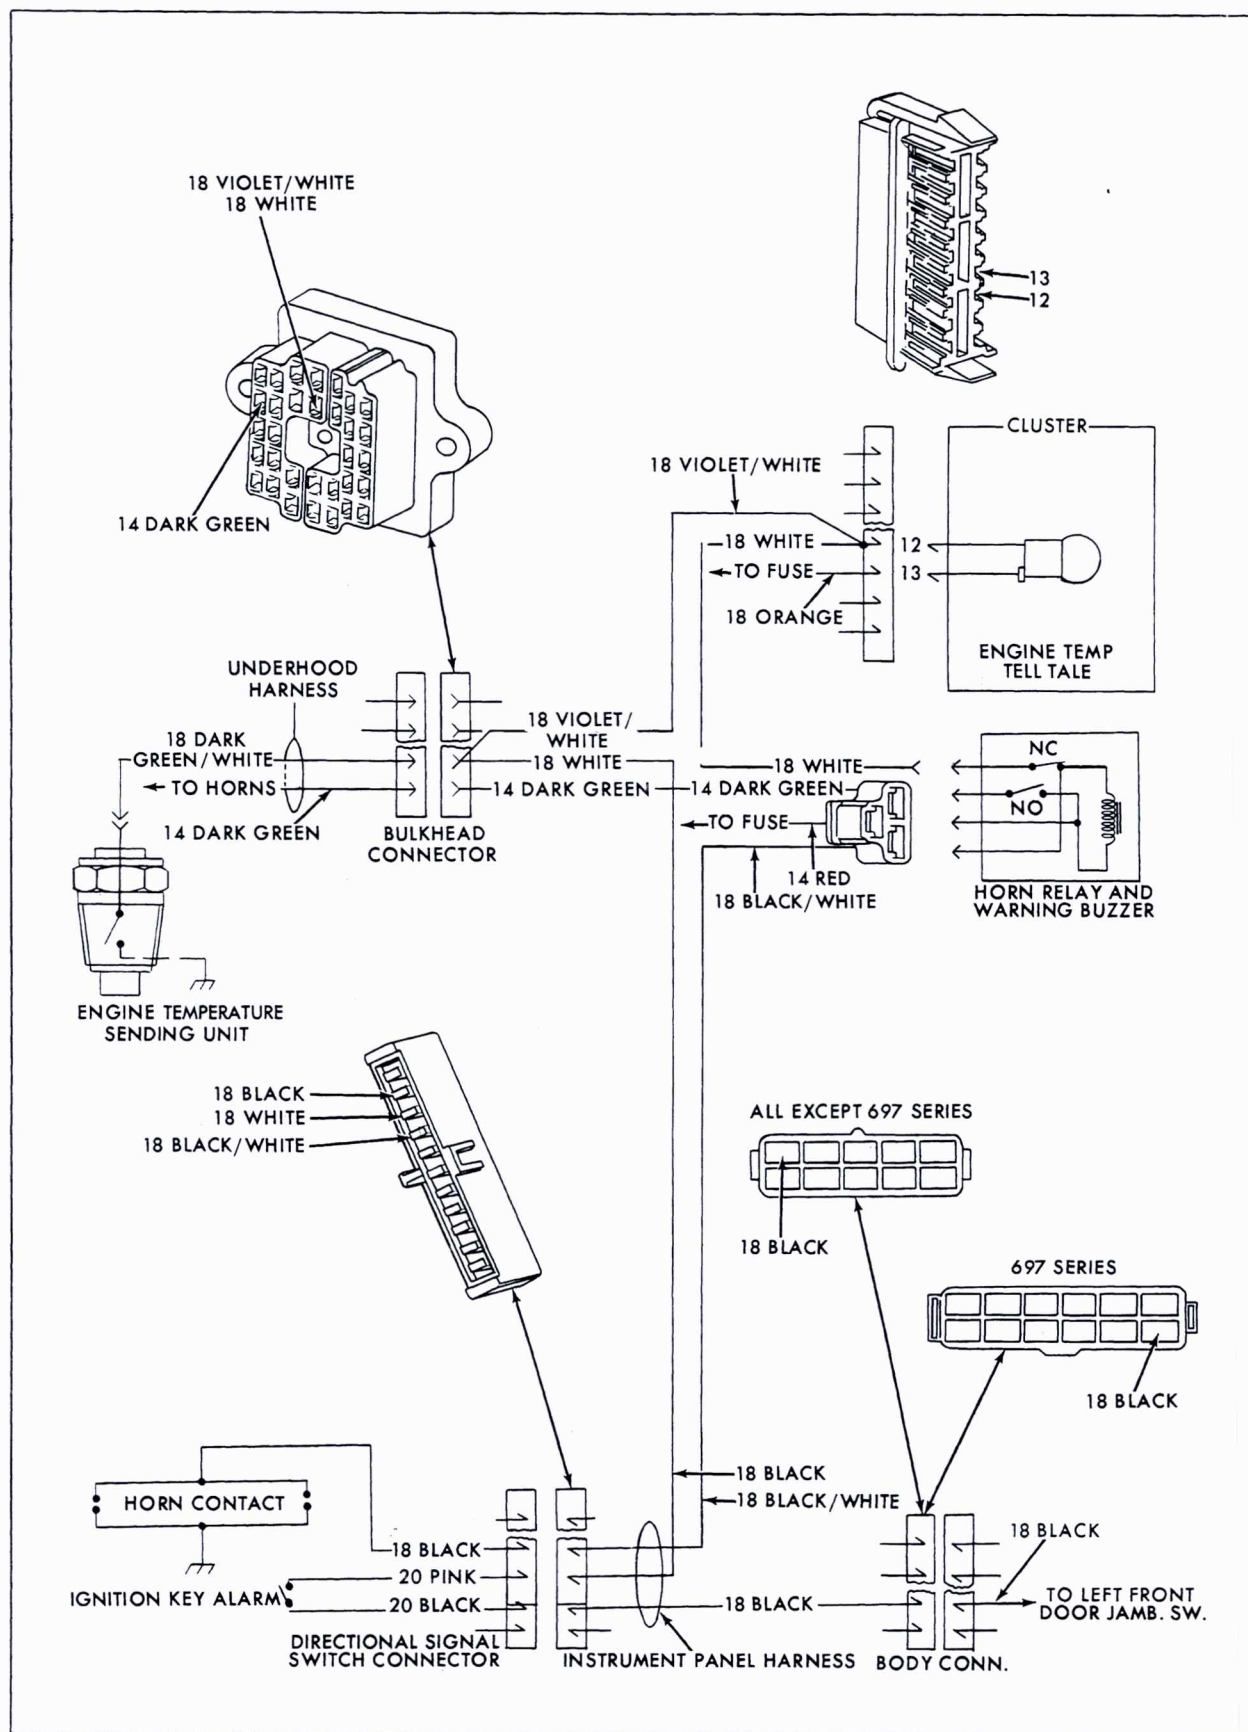

Fig. 12-28 Engine Temperature Warning System
**Engine Metal Temperature System Circuitry (Fig. 12-28)**